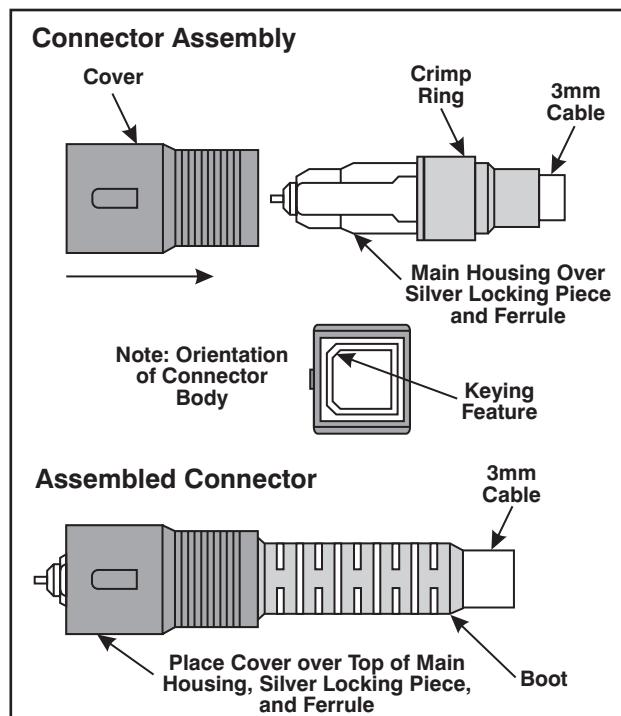

FIGURE 4 FINAL ASSEMBLY
- 4.01 Place cover with small end over main housing (See Figure 4). Make sure to line up housing and cover properly (see Keying Feature). Slide boot up and snap into place.